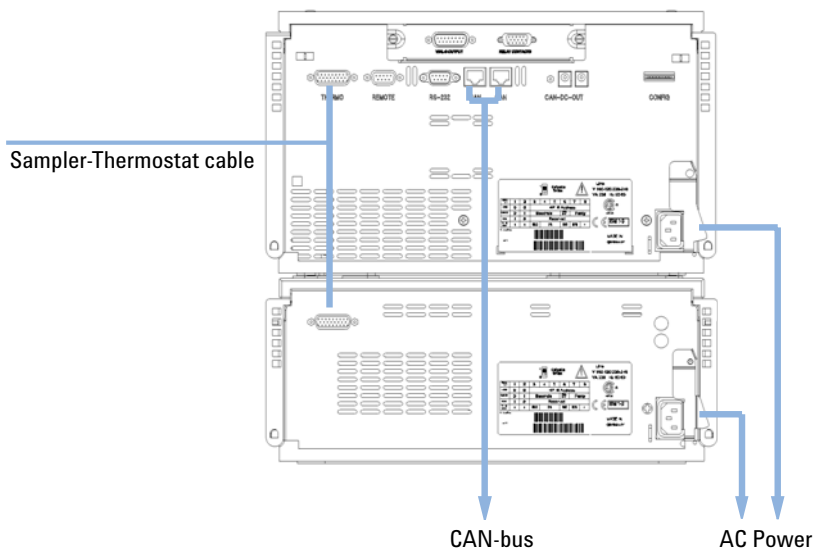

Figure 18 Connection at the rear of thermostatted Autosampler
- 13 Connect the cable between the sampler and the thermostat, see Figure 18 on page 57.